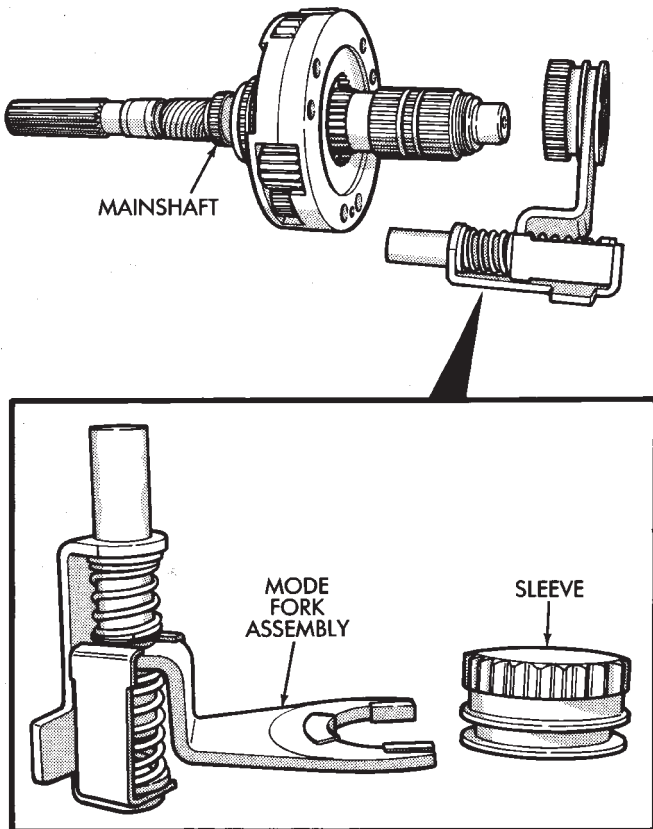

Fig. 23 Removing Mode Fork And Sleeve
(30) Remove mode shift sleeve and mode fork assembly from mainshaft (Fig. 23). Note position of mode sleeve in fork and remove sleeve.